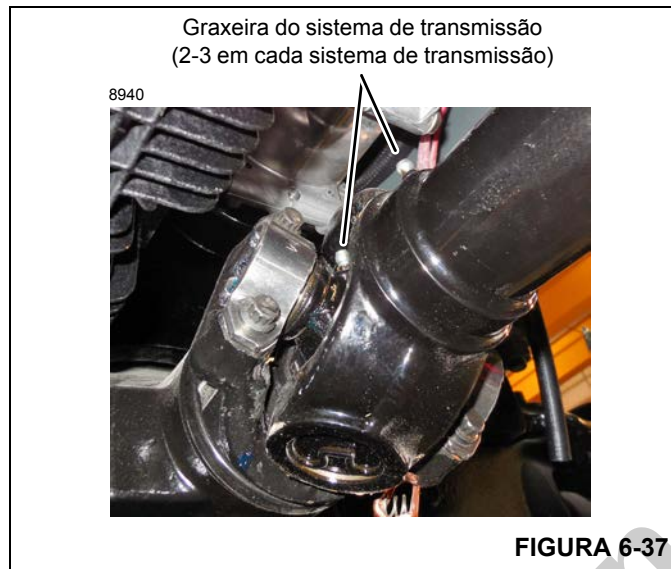

FIGURA 6-37
2. Limpe as graxeira (Figura 6-37).